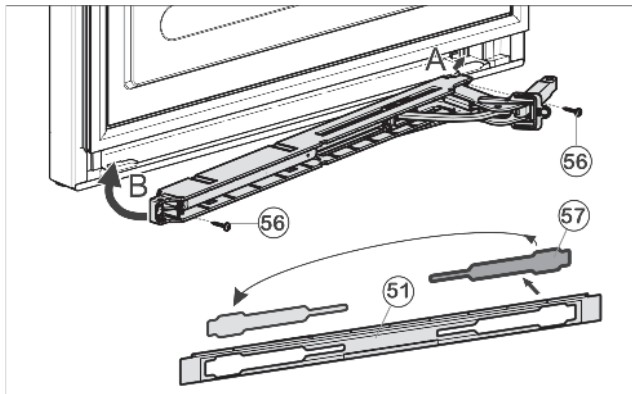

Fig. 21
- ▶ Loosen cover Fig. 21 (57) from the panel Fig. 21 (56) and insert on the other side.
- ▶ With the hinge of the soft stop unit facing the door hinge side, engage the soft stop unit (A) and swivel inwards (B).
- ▶ Tighten soft stop unit (2 x Torx 15) Fig. 21 (56).